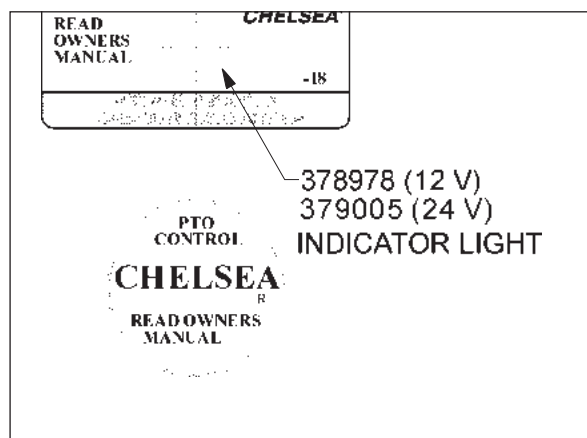

Fig. 20
5. Install the control plate (68-P-18) stick on decal and indicator light on the dash using the hardware supplied in the 328751-1X installation kit (**Fig. 20**).